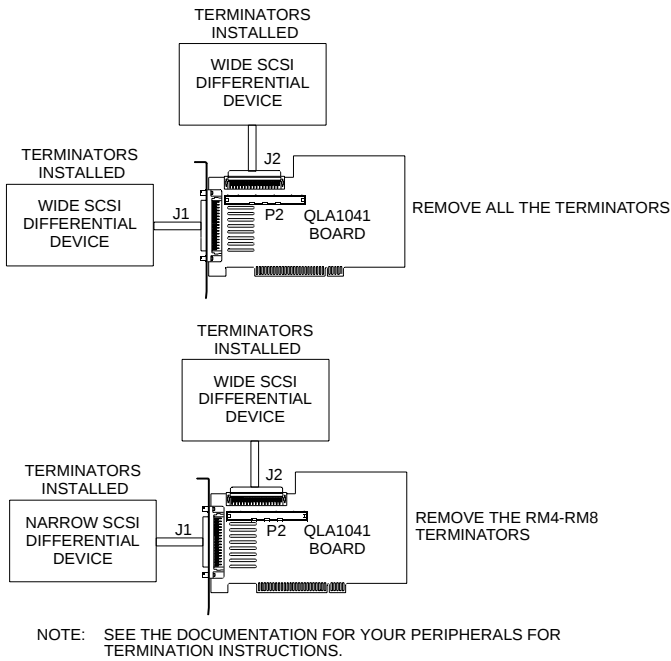

Figure B-4. Termination with J1 and J2 Connectors
- ☐ If you have wide devices on the J1 and J2 connectors (see figure B-4), remove all the terminators (RM1-RM8).